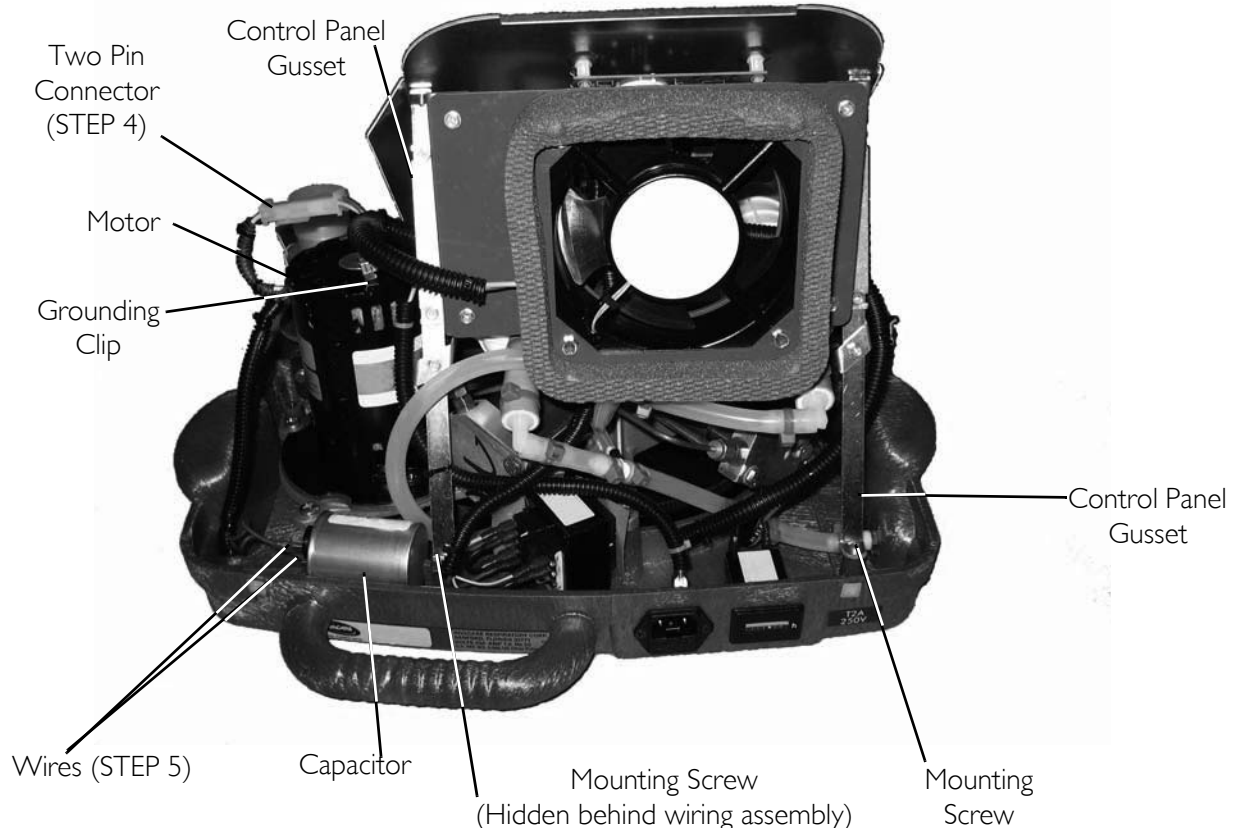
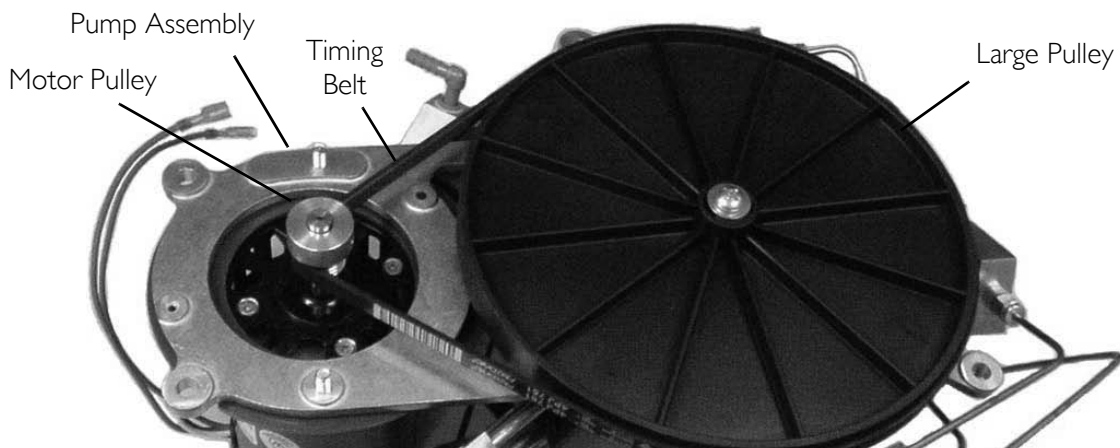

FIGURE 11.1 Timing Belt Replacement
FIGURE 11.6 Timing Belt Replacement
NOTE: For this procedure, refer to FIGURE 11.1 through FIGURE 11.6.
5. Disconnect the two pin connector that connects the motor to the wiring harness (FIGURE 11.1).
6. Using needle nose pliers, disconnect the two wires from the capacitor (FIGURE 11.1).
7. Using needle nose pliers, disconnect the grounding clip from the motor (FIGURE 11.1).
- Remove the two screws that secure the control panel gussets to the rear of the base assembly (FIGURE 11.1).
25. Remove the timing belt by gently pulling the belt away from the large pulley and motor pulley (FIGURE 11.6).
1. Install new belt over the large pulley and the small motor pulley. Refer to Detail “A” in FIGURE 11.6.
14. Secure the control panel gussets to the rear of the base assembly with two mounting screws (FIGURE 11.1).
18. Connect the grounding clip to the motor (FIGURE 11.1).
19. Connect the two wires to the capacitor (FIGURE 11.1).
20. Connect the two pin connector that connects the motor to the wiring harness (FIGURE 11.1).